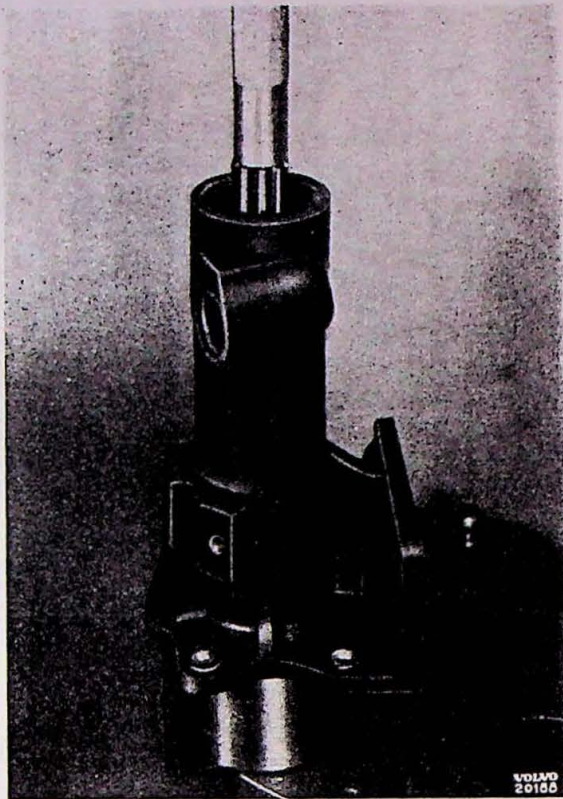

Fig. 9.
2. Place rear housing assembly in a press and press out main shaft. Use tool SVO 4037 and SVO 4038, fig. 9. Pull rear bearing (19) and oil seal (20) out of rear housing by means of tool SVO 4030.